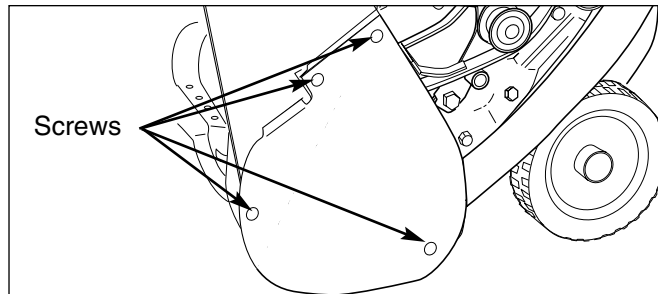

Figure 5. Removing Belt Cover
2. Remove the four screws securing the belt cover (see Figure 5).
- A couple of drops of light machine oil applied to upper end of auger control cable will assure free movement of cable through outside casing. Wipe off any excess oil (Figure 5).